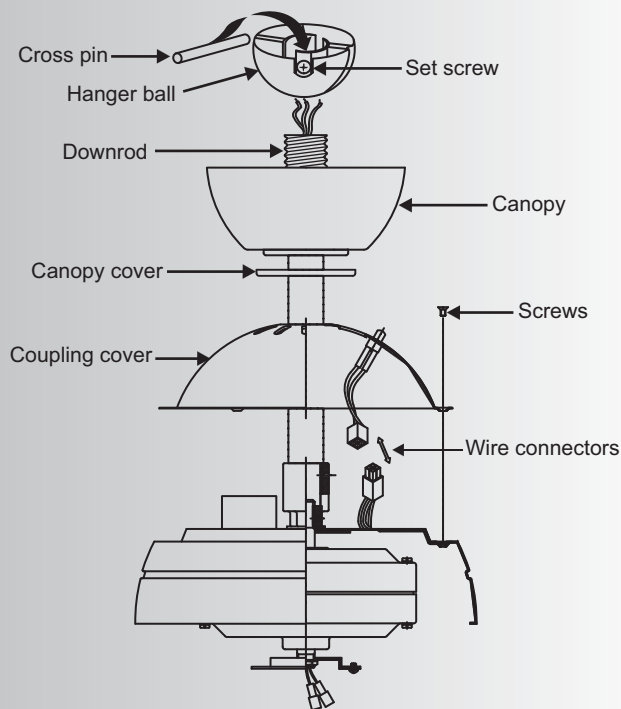

Fig. 10
Step 9. Slip the coupling cover, canopy cover and canopy onto the downrod. Connect the wire connectors together form the coupling cover and motor housing. Secure the coupling cover to the motor housing using the two screws previously removed. (Fig. 10)
Thread the hanger ball onto the downrod, insert the cross pin through the downrod and tighten. Now tighten the set screw. (Fig. 10)